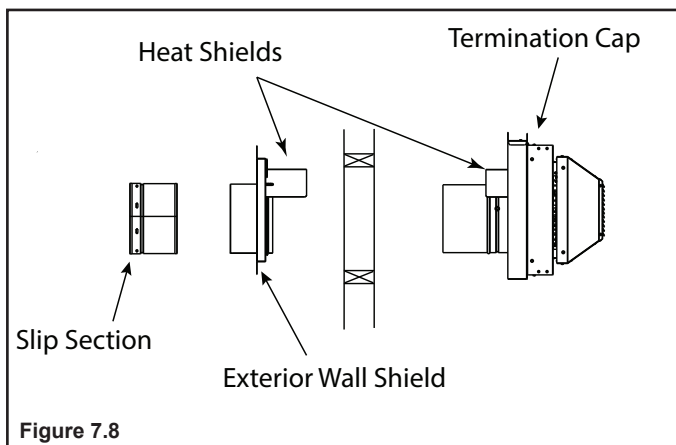

Figure 7.8
The PHOENIX appliance includes a termination cap, exterior wall shield and slip section. The termination cap and wall shield **MUST** be used together. See Figure 7.8.
- DO NOT remove the heat shields attached to the wall shield or the termination cap (shown in Figure 7.8).